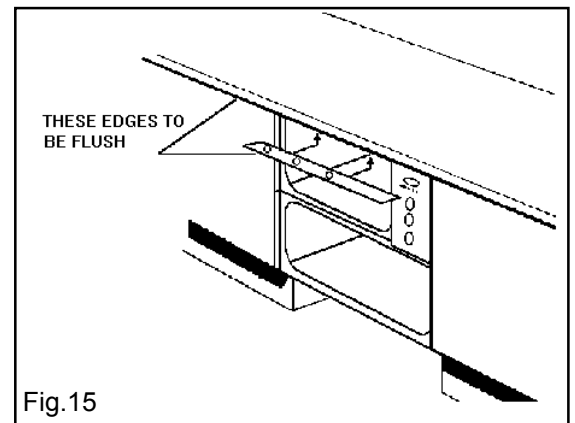

Fig.15
- Place the top trim flush with the edge of the worksurface, with the cork spacers up over (see Fig.15) and screw into position using the screws supplied with the appliance.